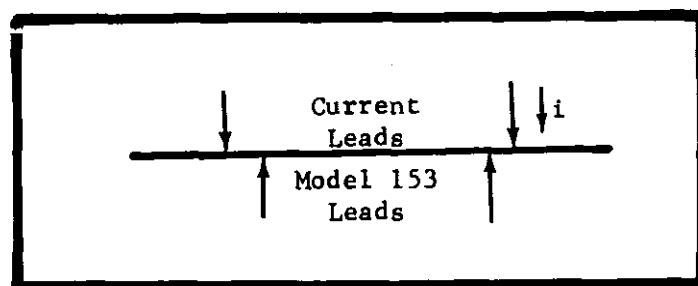

FIGURE 5. Using Model 153 with 4-Terminal Connections.
b. Four-terminal connections can often be used to eliminate this error. Refer to Figure 5.